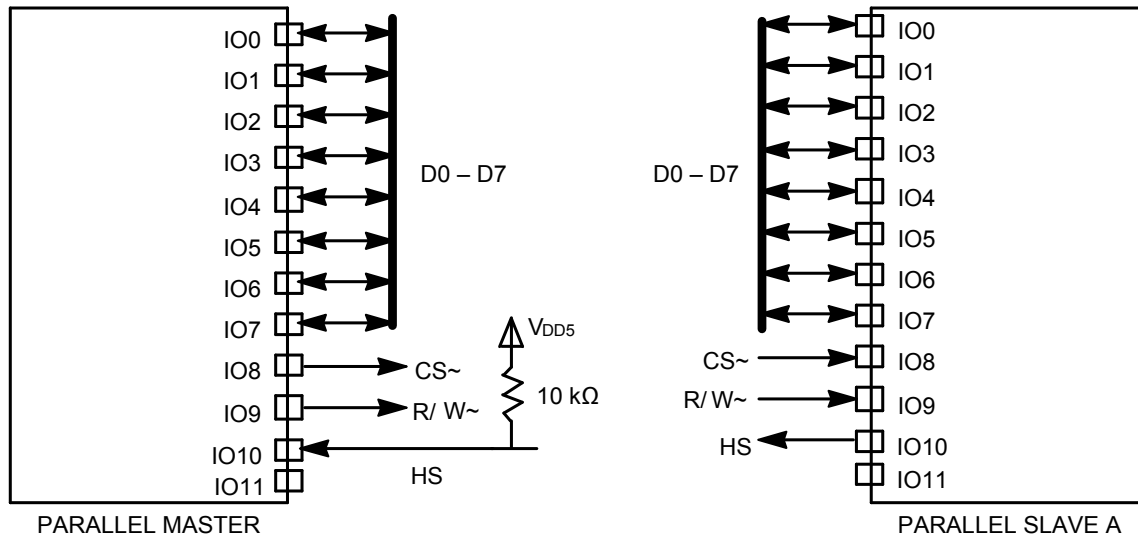

Figure 19. Master Mode and Slave A Mode
The master mode and the slave A mode are recommended when interfacing two Neuron Chips or Smart Transceivers. In a master/slave A configuration, the master drives the IO8 pin as a chip select and the IO9 pin to specify a read or write cycle, and the slave drives the IO10 pin as a handshake (HS) acknowledgment (see **Figure 19**).
This section describes a pair of example programs that transfer data in a parallel I/O master/slave A configuration. The code assumes two devices hardwired as shown in **Figure 19**. The master program writes the **test_data** to the input